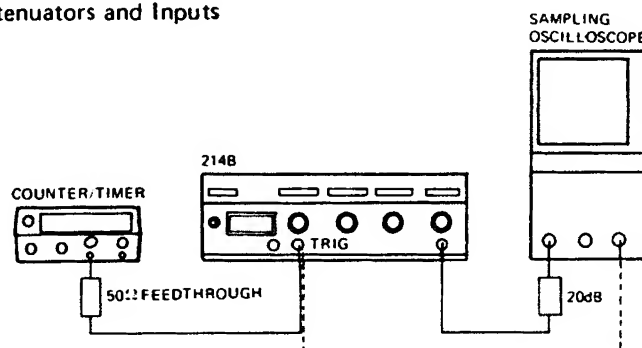

Figure 4-6
1. Connect equipment as shown in Figure 4-6 and set 214B controls as follows: